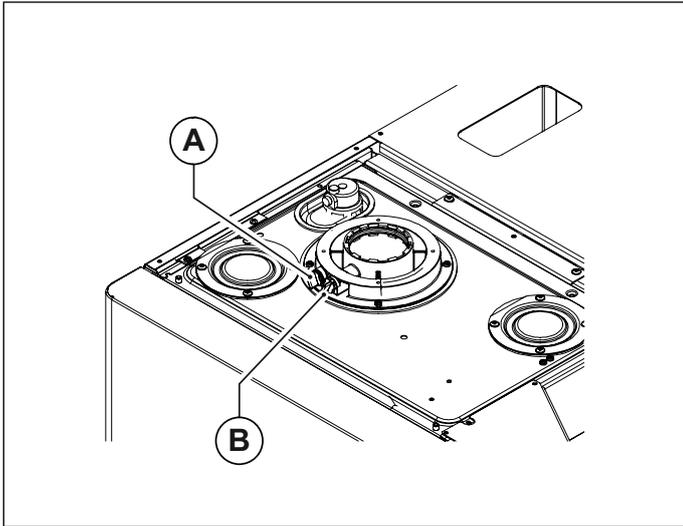
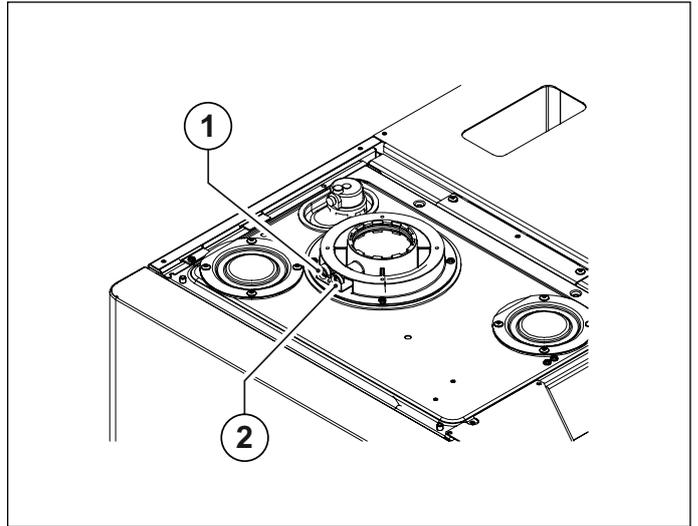

Fig. 20 Caps position
Fig. 21 Hole position
The boiler is equipped with a tower allowing for air intake/flue gas venting pipe connection (see Fig. 20 Caps position and Fig. 21 Hole position).
The tower is designed with two pre-arranged openings directly accessing air and flue gas ducts (see Fig. 20 Caps position).
Remove caps **A** and **B** from the pre-arranged openings on the tower, before taking the measurements (see. Fig. 20 Caps position).
- assess combustion air from opening **1** (see Fig. 21 Hole position).
- assess flue gas temperature and CO₂ from opening **2** (see Fig. 21 Hole position).